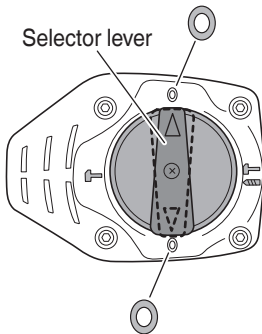

Fig. 9
- (2) When fixing working positions of tools such as cold chisel, etc.,
- (a) Turn the selector lever. Align ▲ of the selector lever and ◎ of the crank cover as illustrated in Fig. 9.